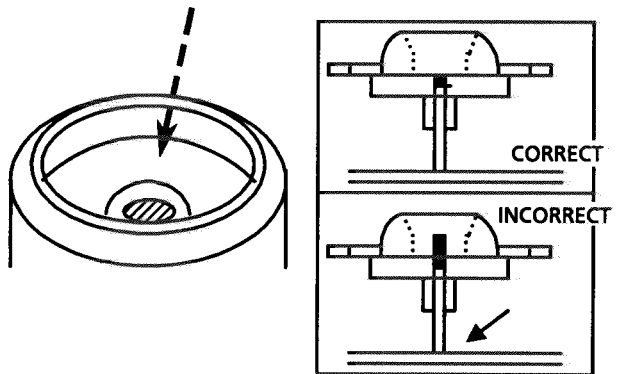

Fig. 46
- (31) After inserting the turntable, bond the motor shaft and turntable together (at the section marked by an arrow in fig 46 on the left below).**
Be extremely careful not to allow bonding agent to adhere to the motor bearing (the section marked by an allow in fig 46 on the right).